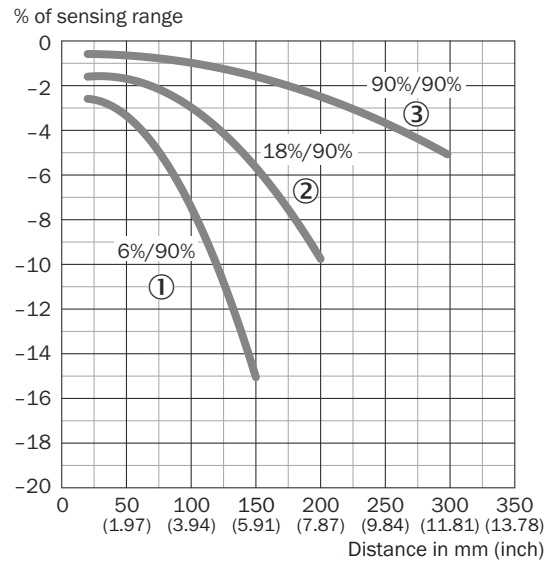

Figure 9: HTF18, % of sensing range
Check the application conditions: Adjust the sensing range and distance to the object or background and the remission capability of the object according to the corresponding diagram see [figure 9] (x = sensing range, y = transition range between the set sensing range (background) and object as a % of the sensing range (object remission/background remission)). Remission: 6% = black ①, 18% = gray ②, 90% = white ③ (referring to standard white as per DIN 5033).
The minimum distance (= y) for reliable object detection can be determined from the diagram [figure 9①] as follows: